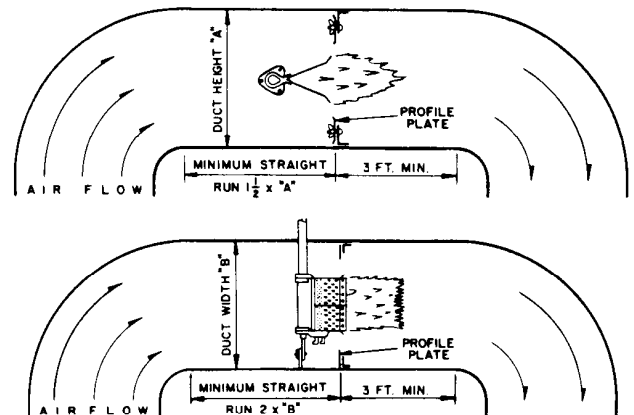

FIGURE 4 Elbow Ducts Limits
□ The air flow at the burner must be substantially straight, otherwise an uneven fire and temperature will result. Sharp changes in direction or large obstructions immediately in front of the burner should be avoided. See Figure 4.